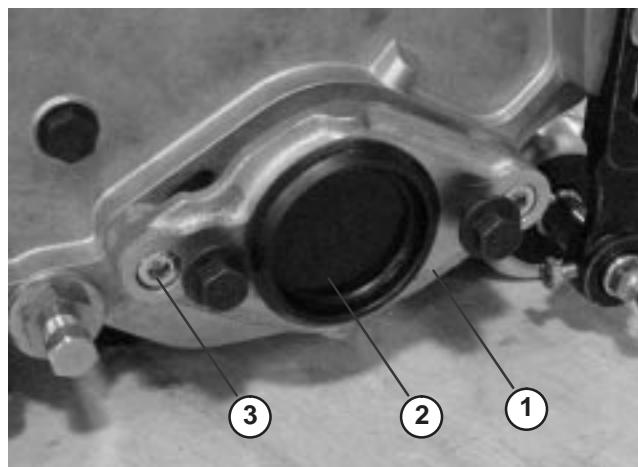

Figure 6
B. On right end of cutting unit, remove plastic plug from bearing housing (Fig. 6).
C. Remove the 2 allen head screws securing the motor mount to the right end of the cutting unit. Remove the motor mount (Fig. 6).
F. Install the motor mount to the left end of the cutting unit with the (2) allen head screws previously removed (Fig. 6). Torque screws to 12–15 ft-lbs. (16–20 N·m).